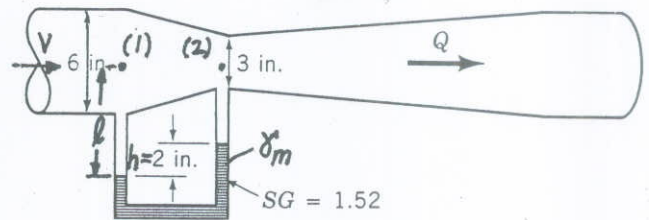

FIGURE P8.122
8.122 Water flows through the Venturi meter shown in Fig. P8.122. The specific gravity of the manometer fluid is 1.52. Determine the flowrate.